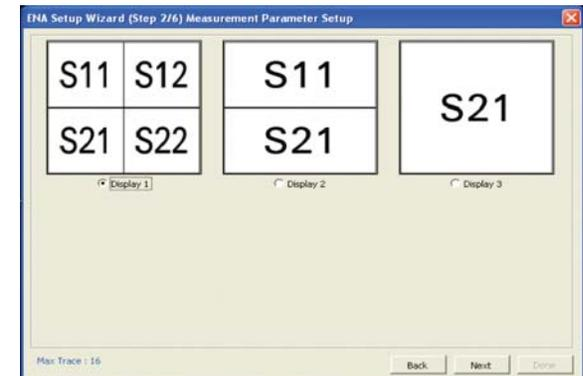

Figure 4. Measurement parameter setup
- e. Select "Display1" as type of display mode in measurement parameter setup (Figure 4)